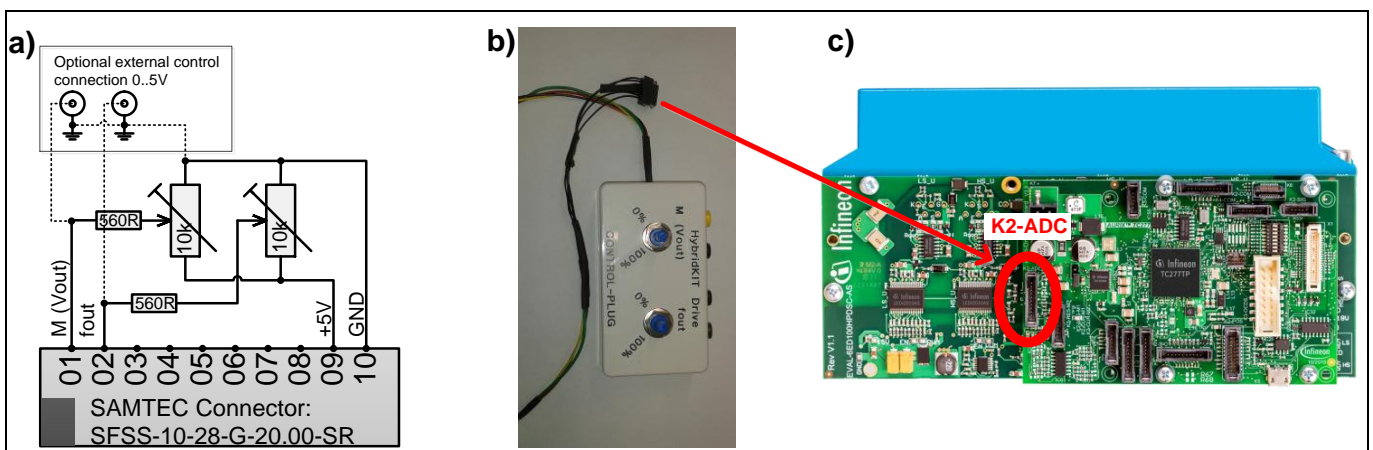

Figure 6 Recommended DEMO-CONTROL-PLUG (a) and (b). The right position of the plug on the logic board connector K2-ADC is indicated in (c).
- 4) Place DEMO-CONTROL-PLUG (see Figure 6).
- 5) Turn potentiometers for modulation index and output frequency to low position. (i.e. pin 1 & pin2 are connected to GND; see Figure 6)
With the DEMO-CONTROL-PLUG of Figure 6, the modulation index (and thus phase output voltage) as well as output frequency can be adjusted. Optional an external 0...5V analog signal can be used, which overrule the poti positions and is useful in case reproducible operating conditions are desired for a test.